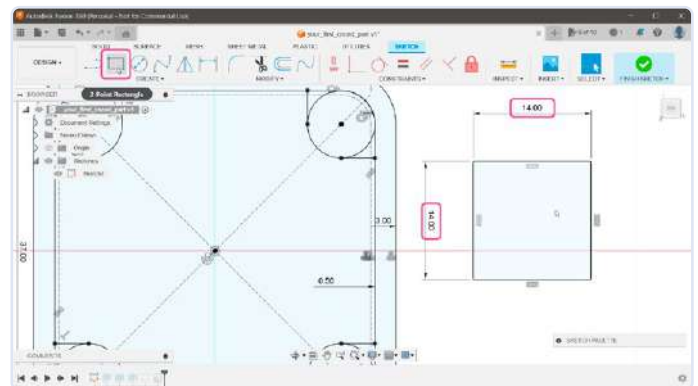

Figure 16: Preparation of the two rectangular holes on the bottom of the enclosure.
16) We need two rectangular holes on the bottom of the enclosure to access the connectors on the bottom of the PCB. The connectors are slightly different in size, but a 11x14 mm hole will work for both. We need to count with the wall thickness (3 mm), which sets the hole size to 14x14 mm. For drawing those holes, we can reuse our original sketch. Open it for editing and select the **2-Point Rectangle** tool (Figure 16) from the toolbar. Draw a 14x14 mm rectangle anywhere on the canvas.